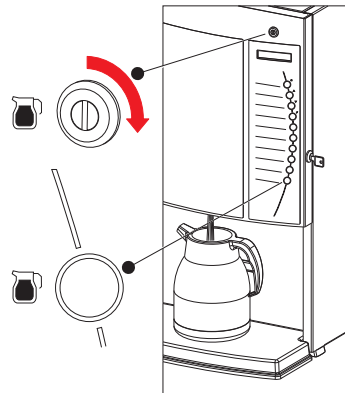

Fig. 30
1. Place an empty jug under the outlet (fig. 30).
If the machine is equipped with an optional jug lock, only the person who has the key, has the possibility to dispense a jug (fig. 30).